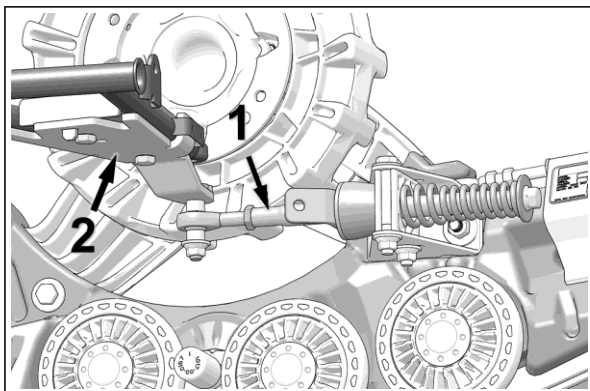

Figure 1
- Stabilizing arm (1) must be attached to the front anchor bracket (2) installed on the vehicle. See Figure 1.